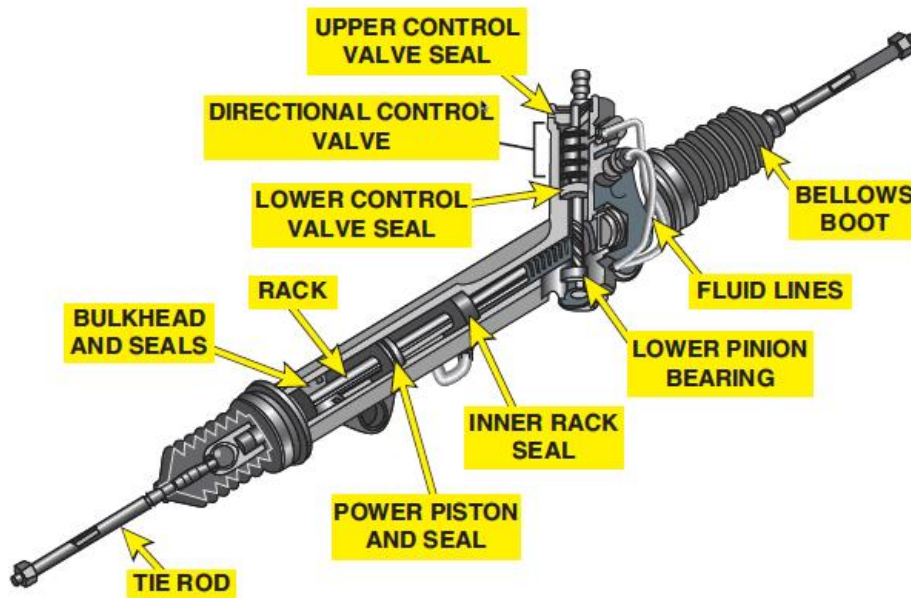

Figure 18. Fluid leaks of the internal seals will cause fluid leaking from the rack boots.
- Leakage, especially power racks Figure 18.